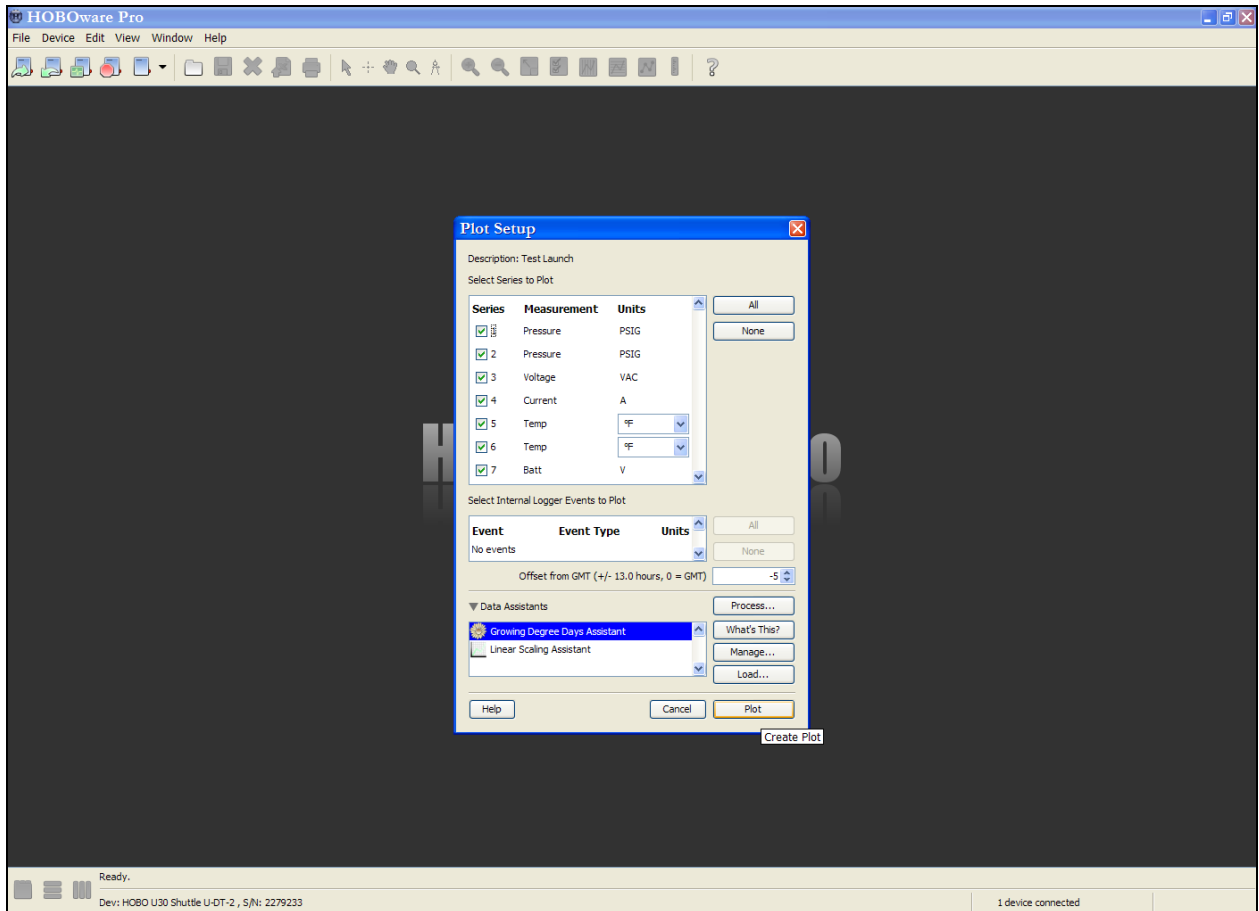

Figure 6. Plotting the Data
6) A Plot Setup screen will open. Push the 'Plot' button as seen in Figure 6.